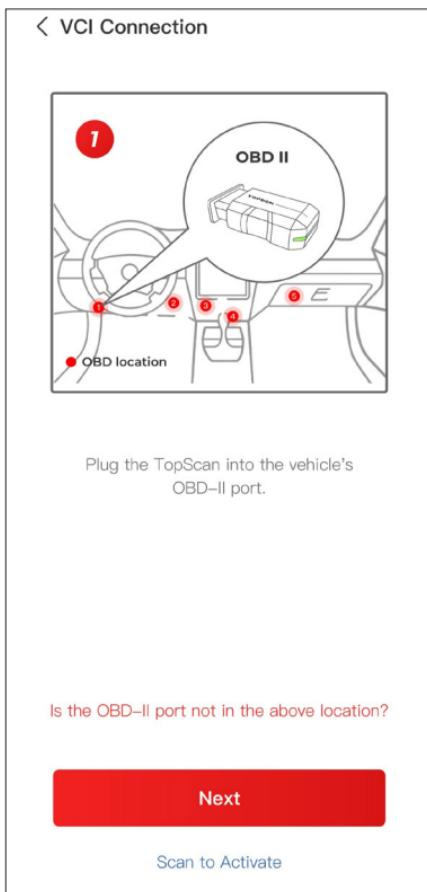

Figure 3-4
② Start the engine of the vehicle as prompted on the guided interface. Then tap Next (See Figure 3-4).